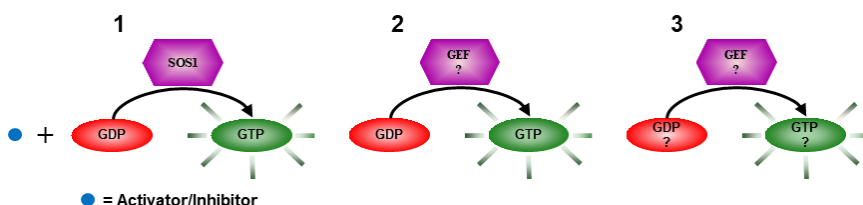

Figure 3. GTPase, GEF, and compound combinations
Cytoskeleton Inc. has developed a N-MAR-GTP fluorophore-based RAS-GEF assay suitable for both 96-well and 384-well formats (9). This assay can be utilized for multiple research purposes, such as identifying GEF or GTPase activators/inhibitors, characterizing GEFs, testing the activity of mutant GTPases, and discovering novel GEF and GTPase partners in a high-throughput screen format. (Fig. 3). This kit contains human KRAS-4B protein and the GEF domain of SOS1 as a positive control (Fig. 2). KRAS-4B cancer relevant mutant, other GTPases, or GEFs can be purchased at Cytoskeleton Inc. for analysis by monitoring N-MAR-GTP exchange.